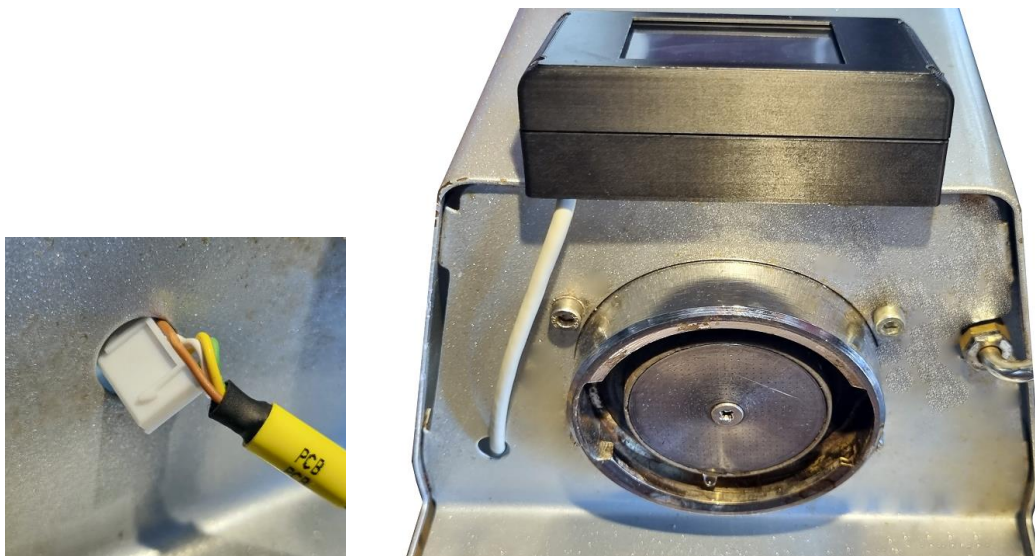

Fig. 5.5
- insert the DISPLAY CABLE through the existent hole left of the group head. If there is no hole, please drill one with 10mm drill (fig. 5.5)